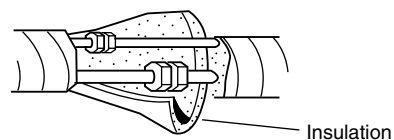

Fig. 3-30
- (1) Pass the tubing and drain hose into the rear of the indoor unit. Provide sufficient length for the connections to be made (Fig. 3-30). Next, bend the tubing with a pipe bender, and connect them.